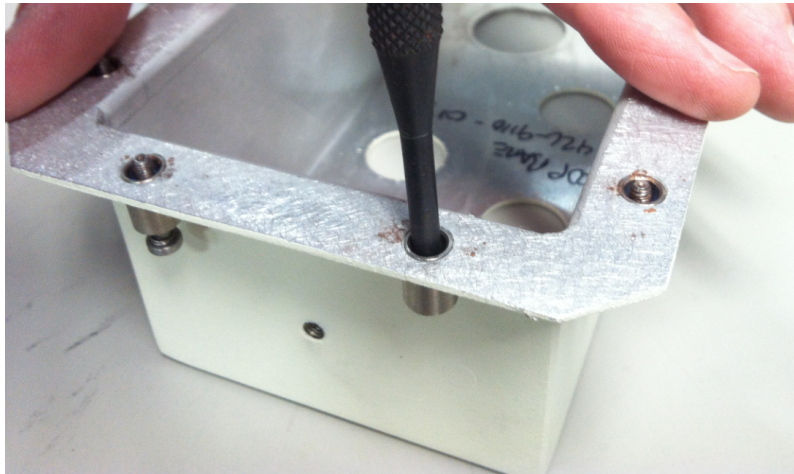

Figure 20: Press fit of the retainer ring
5. Use a 4 mm (5/32") punch to press the O-ring fully into the retainer body as shown in Figure 20. The inside shaft of the retainer body is slightly tapered to compress the O-Ring and thereby retain the screw.